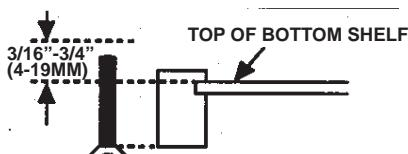

FIG. 13
2. Hold each bolt against the cabinet front rail. **Pick the bolt that extends beyond top of the bottom shelf by $3/16"$ (4 mm) to $\frac{3}{4}"$ (19 mm).** This will be the bolt length needed for your cabinets. (Fig. 13)